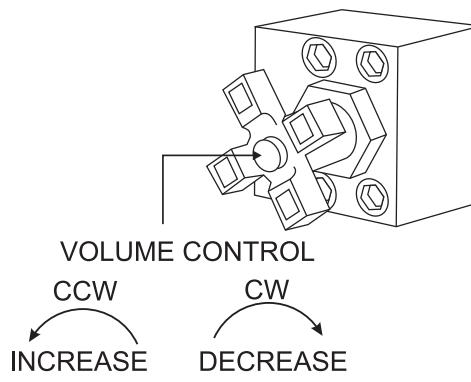

Figure 27. Volume Control
2. Use the volume control (Figure 27) to set the pump volume to approximately **10 strokes per minute**. Turning the volume control clockwise (CW) will **decrease** pump volume, and counterclockwise (CCW) will **increase** pump volume.
5. Rotate the **Volume Control Knob** (Figure 27) to the right to increase the volume to 25-30 strokes per minute. Place pump control switch in the center "OFF" position. Slowly discharge the concrete from the ready-mix truck into the hopper and completely fill it. Place pump control switch in the local "ON" pumping position. Keep the pump running continuously until concrete is discharging at the end of the delivery system. If the pumping operation suddenly stops with no concrete discharging from the hose, a blockage may have occurred. Immediately place the switch in the "OFF" position. Refer to Clearing Concrete Blockage Section.